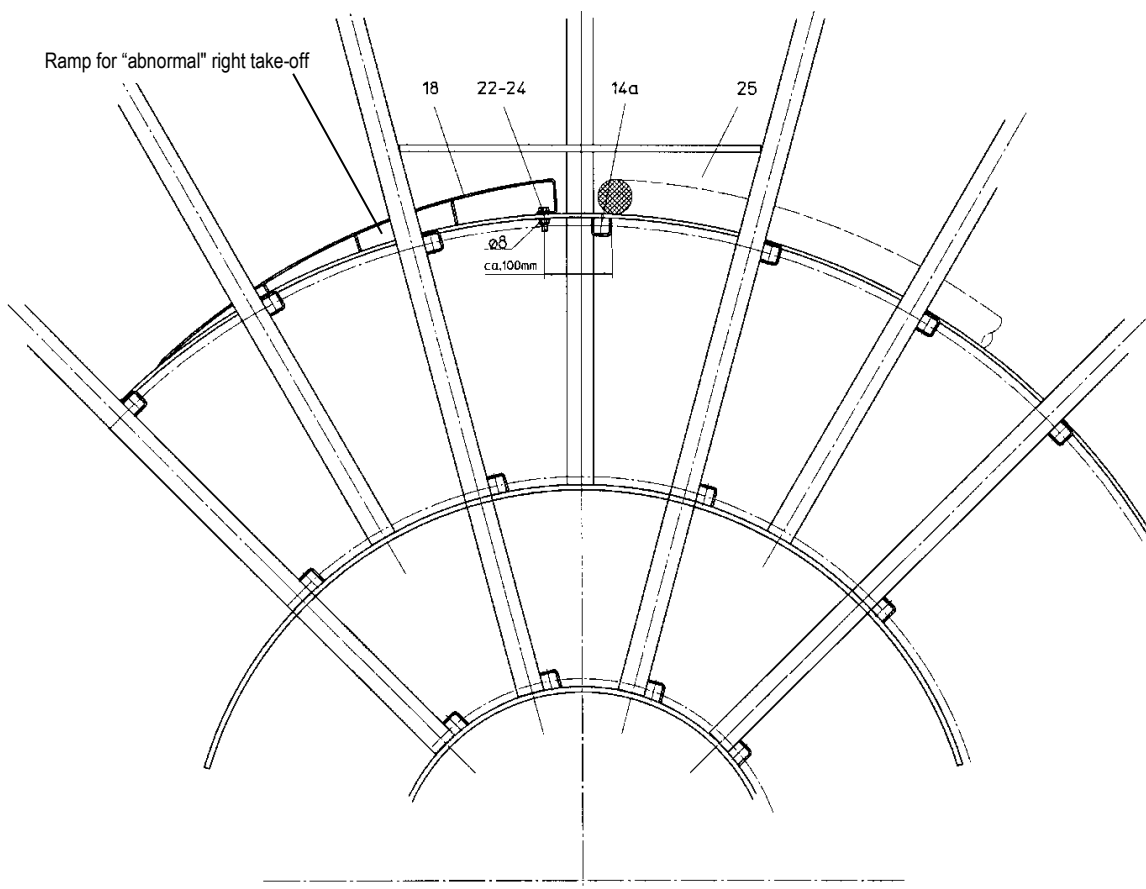

Figure 12. Cable take-off uncommon / right (looking onto the reel wheel from outside, gearbox and drive hidden from view).
Depending on the reel width, there may be a ramp provided for the cable entry (see Figures 12 and 13).
The ramp (18) is attached to the reel mantle (4) in such a way that the first winding layer transitions to the second winding layer without kinking. winding layer transitions to the second winding layer without kinking. winding layer without kinking. This also avoids crushing the cable in the area of the cable entry. Kinking and crushing must absolutely be avoided in cables with fiber optics. To this end, a hole  $\varnothing 8$  or  $\varnothing 9$  must be drilled at a distance "g" from the U profile of the reel mantle (Figures 12 and 13). The orientation of the drill hole is based on the diameter of the cable.
**Note:** Crushing of the cable at the cable entry (25) should be avoided. Observe the cable's minimum bending radius. Make sure the points in 4.2.1.2 have been taken care of by a trained electrician beforehand.